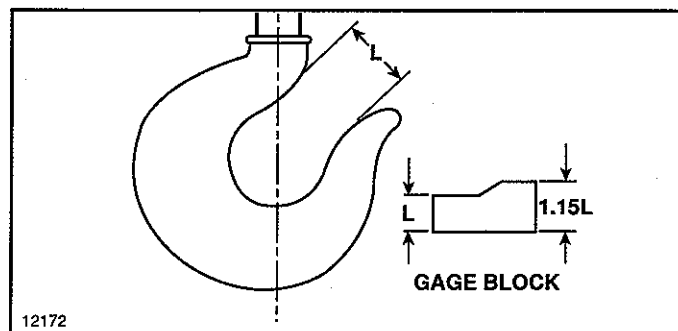

Figure 8-8. Method of Measuring Hook Throat Opening.
- (1) Check lubrication of all parts. If the thrust bearing is not equipped with a grease fitting, lubricate with a general purpose oil. Also lubricate the shank of the hook which passes through the crosshead.
- (2) Check each sheave to ensure rope groove is smooth and free from burrs, or other surface defects.
- (3) Check each sheave for freedom of rotation, replace bearings if defective.
- (4) Make certain that dowel pin holding the hook nut to the hook, is securely in position.
- (5) If hook is equipped with a safety latch or rotational lock, check to determine that they are in good operating condition.
- (6) Check throat opening of hook. (Refer to Figure 8-8.) It is recommended that upon receipt of the crane, a measurement be made and recorded of the hook throat opening. OSHA regulations require that the hook be replaced if the throat opening exceeds 15 percent of the original opening, or if the hook is twisted more than 10 degrees from the unbent plane. A gage block, properly identified to the crane, similar to the one shown in Figure 8-8 is suggested to be made for each hook for use in these measurements.